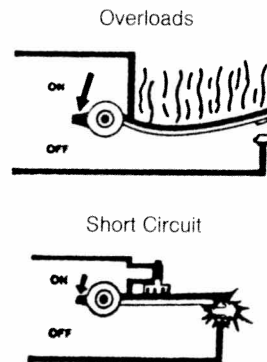

Fig. 1
Molded case circuit breakers are circuit protective devices that primarily perform two functions: (1) manual-switching operation to open and close a circuit by means of a toggle handle and (2) automatic opening of the circuit under sustained overload and/or short circuit conditions. Circuit breakers inherently provide the automatic protective function of opening the circuit under abnormal sustained overload, or short circuit conditions, without the use of fuses. (See Figure 1.) When a circuit breaker opens to clear a fault, the toggle handle goes to a TRIPPED position mid-way between the ON and OFF positions, thus clearly indicating that the breaker has opened. When the cause of the fault has been removed, the circuit breaker can again be closed simply by moving the toggle handle to the RESET position, and then moving the handle to the ON position.